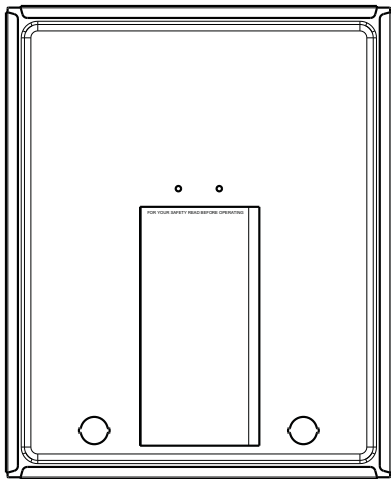

Fig. 31 - Information Booklet Location
**NOTE:** Record the LED status code BEFORE removing the blower access door or turning off 115-v power to the furnace. See the information booklet inside the main furnace door for a service code legend. See Fig. 31.